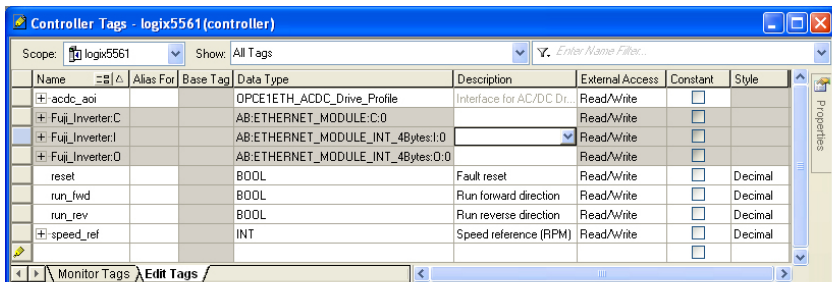

Figure 97: Create AC/DC Drive Profile AOI Tags
- 4) Create the tags in Figure 97.